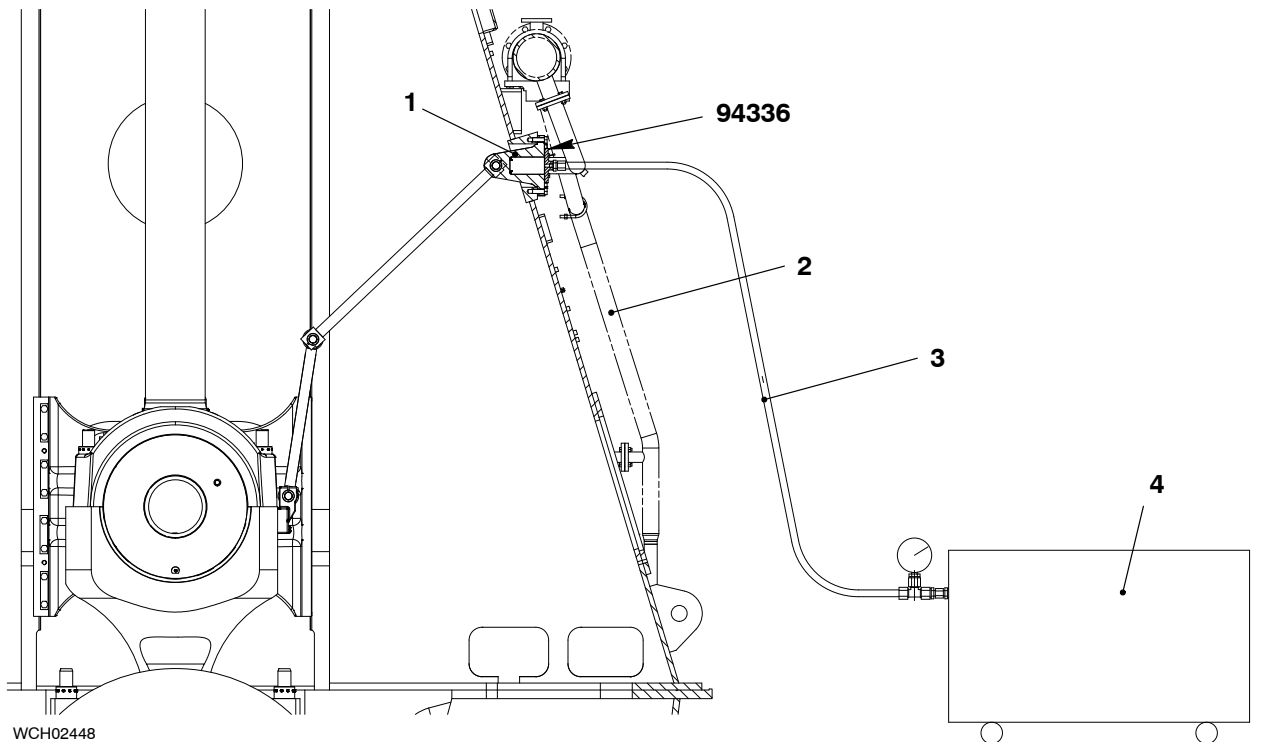

Fig. 10
- 1) Remove the oil inlet pipe (2, Fig. 10).
- 2) Attach the flange (94336) to the support (1).
- 3) Connect the hose (3) to the flange (94336).
- 4) Fill the lubricating pump (4) with steam-engine cylinder oil (refer to Table 1).
- 5) Operate the lubricating pump (4) until oil flows from the sides of the bearing.
- a) Make sure that the hose (3) has no pressure.
- b) Disconnect the hose (3) from the flange (94336).
- d) Install the oil inlet pipe (2) to the support (1).